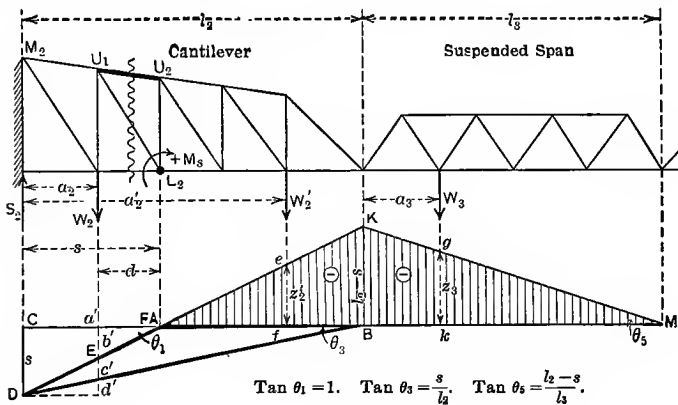

FIG. 31.
**Top Chord of Cantilever Span.**—The chord member,  $U_1 U_2$ , Fig. 31 will be considered. For loads in this span  $M_L = -W_2 a_2$ ,  $M_R = 0$  and hence, from equation (d),
The *base diagram* is first constructed for the term  $m_s$  as shown by the heavy lined triangle in Fig. 31. Prolong the line  $DA$  to  $K$ ; then from the triangle  $DKB$ ,